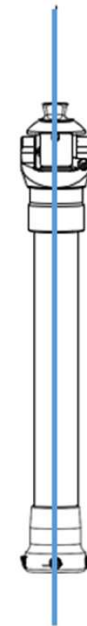

Fig. 2
c) The weight line should pass through the centerline of the knee in the Coronal or M/L plane (Fig. 2). Excessive outset or inset will put undue stress on the knee joint.